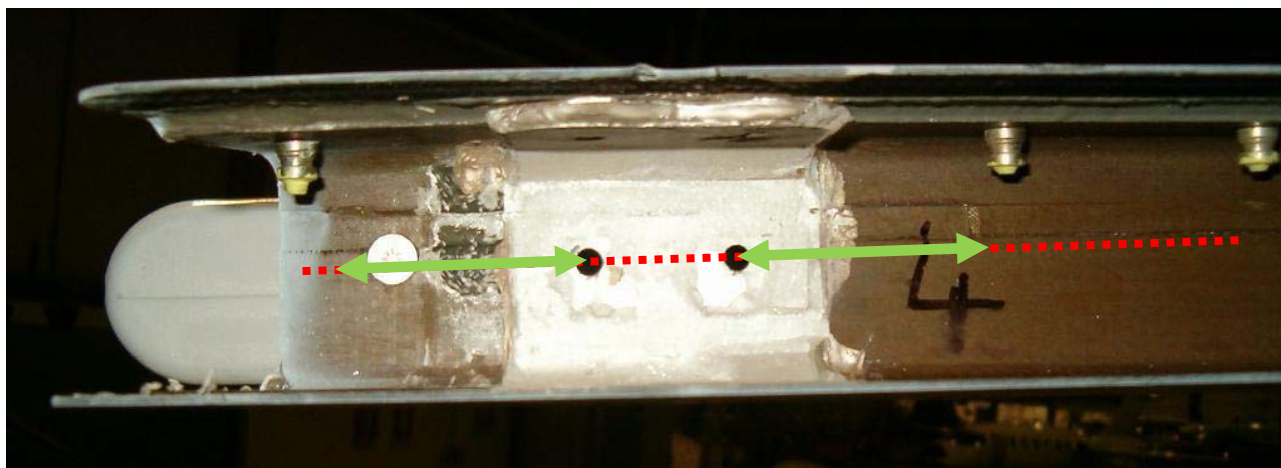

Figure 5
- Using a pen, track a reference line passing through the holes on the rear spar of the Horizontal Stabilizer, in correspondence with the two rear fastener of each fitting (refer to the red dotted line in figure 5). Install a “paper adhesive tape” on the Horizontal Stabilizer to track a line on it (not in the picture).
- Mark 2 points, located on the reference line tracked before, 5 cm from each of the 2 fastener position on the rear side of the fitting (refer to the green arrows in figure 5).